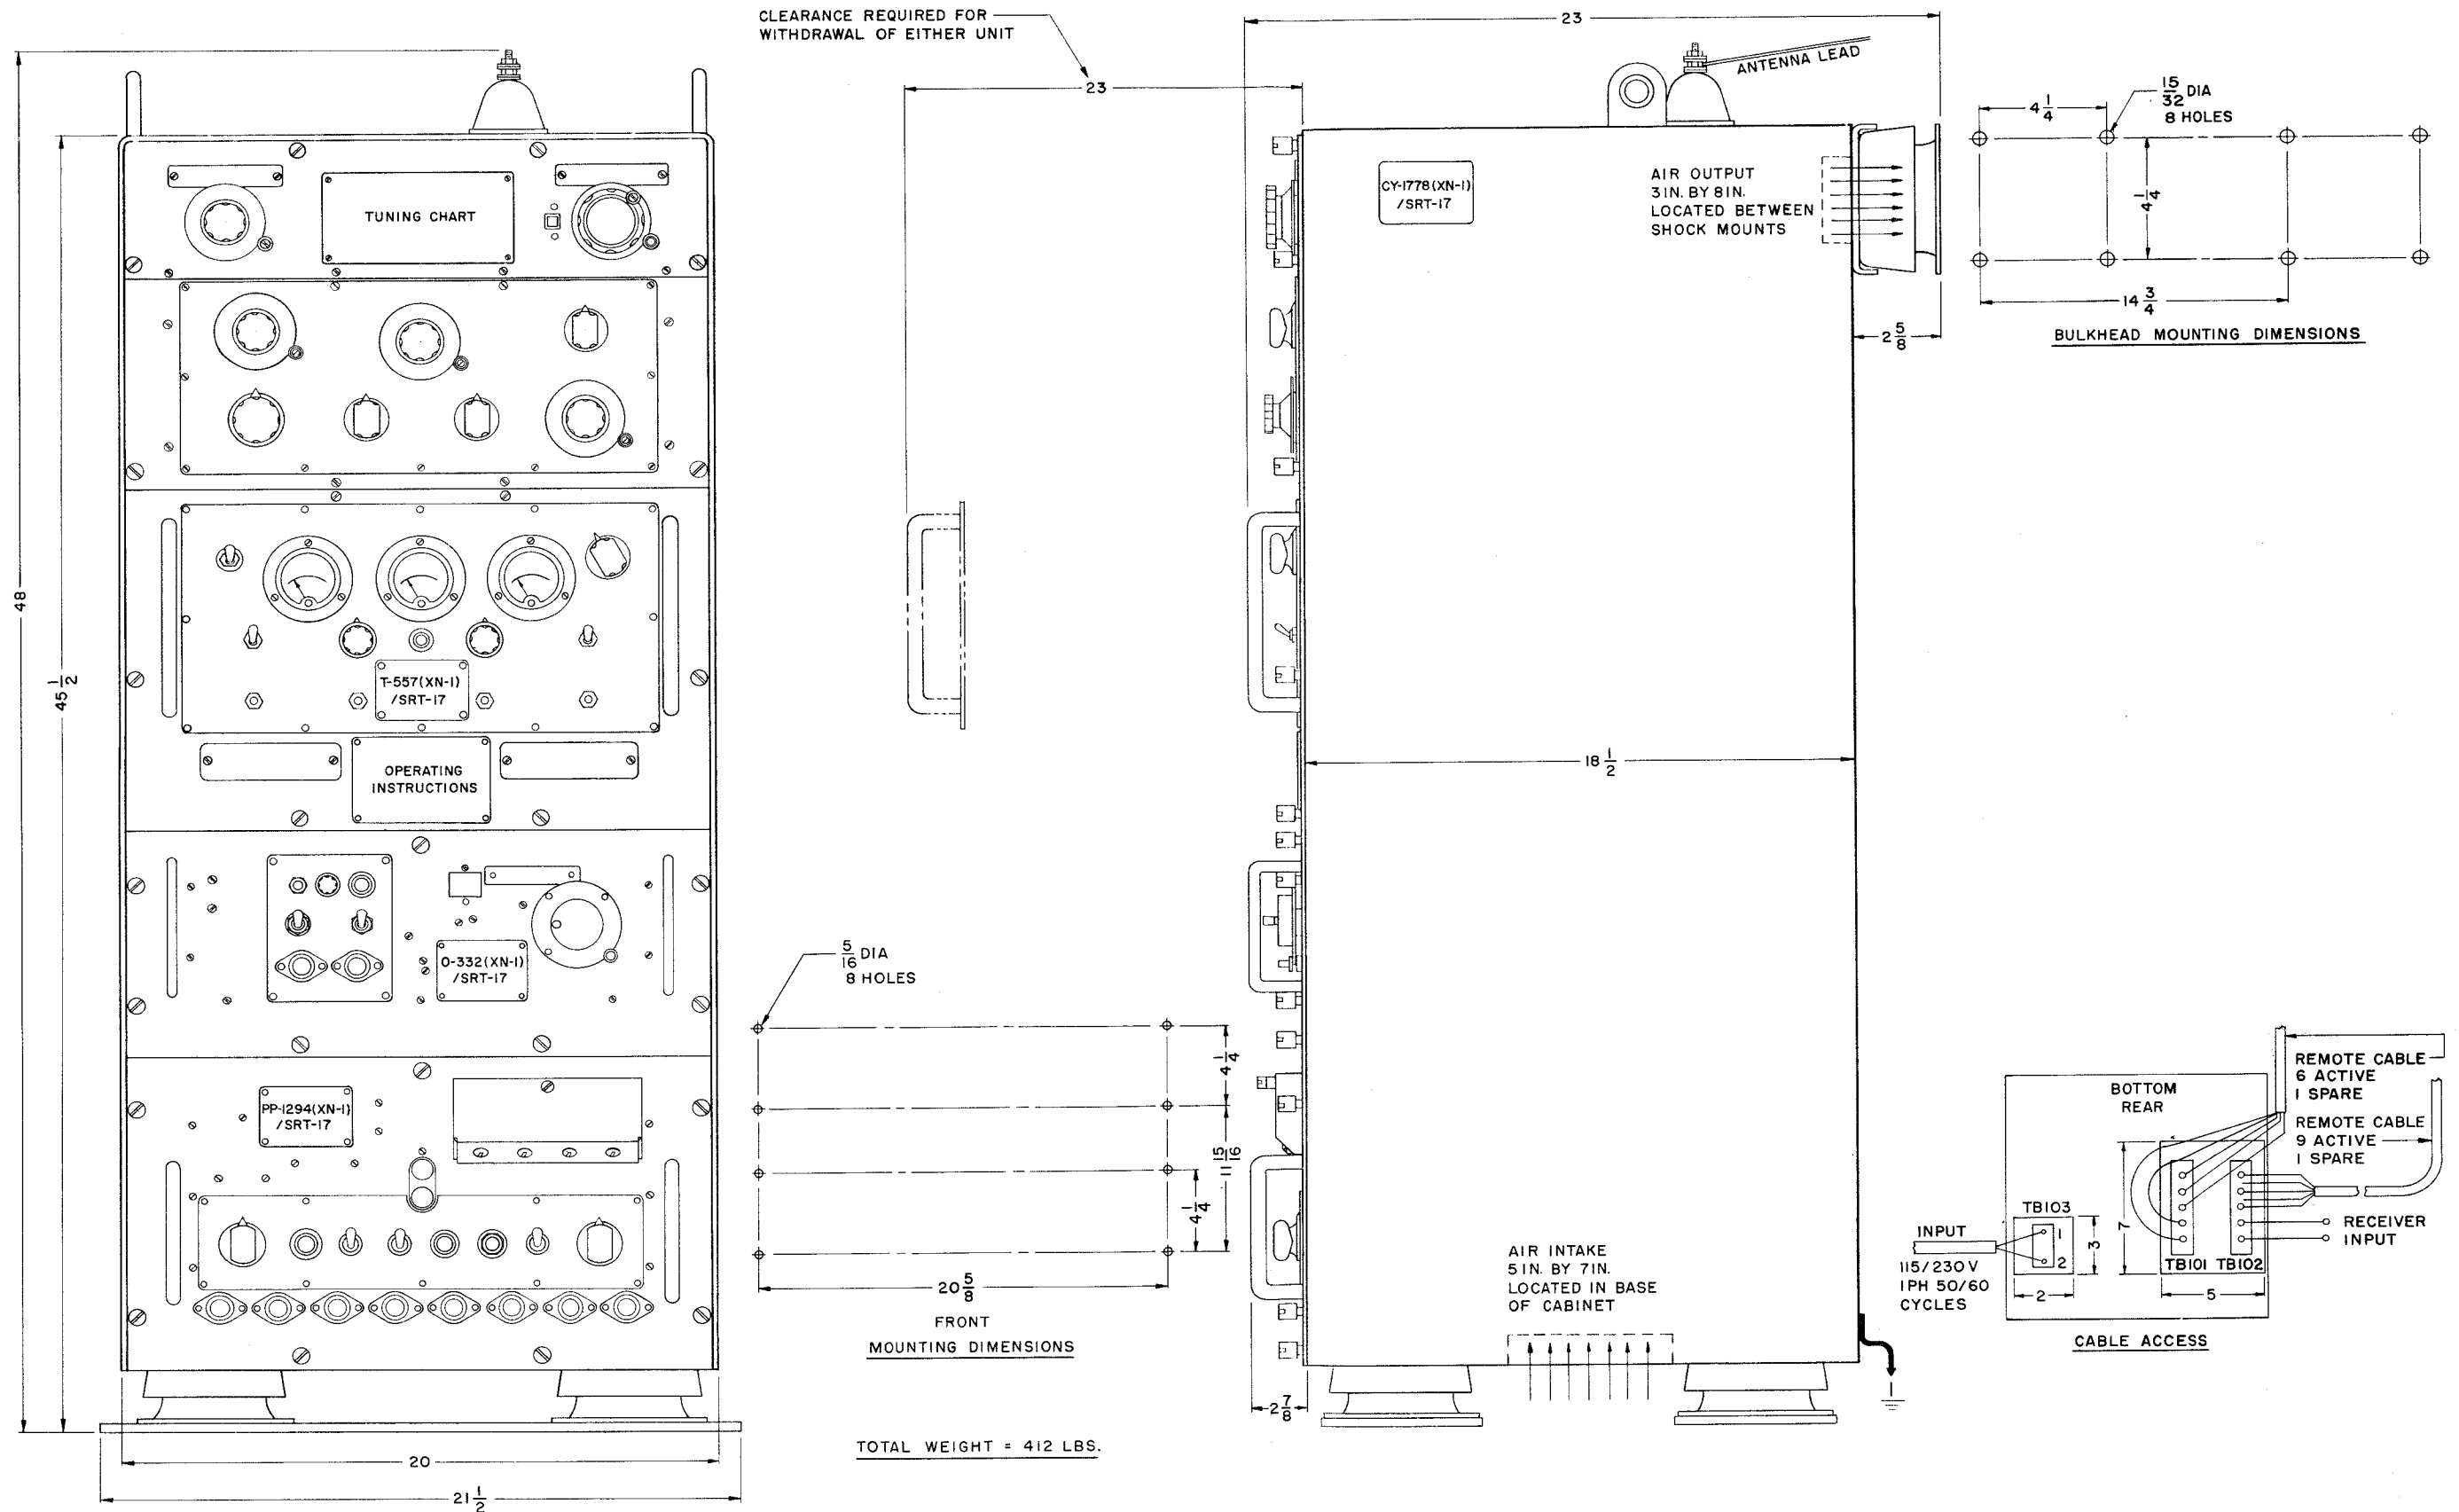

Figure 3-2. Outline and Mounting Dimensions
- (1) Weight of the Equipment: The transmitter weighs approximately 418 pounds. Make certain that the mounting table or deck will support the added weight of the transmitter.
- (2) Space Around the Transmitter: There must be adequate space in front of the transmitter to allow for withdrawal of the units from the cabinet. Refer to figure 3-2.
- (3) Adequate Ventilation: Cooling air is taken in at the bottom of the cabinet and exhausted through the top rear. Make sure that intake and outlet are not blocked.
- (4) Proper Mounting: The transmitter should be mounted on a level base which is not subject to vibration.
- (5) External Connections: Provide sufficient space for power supply cable and remote control cable connections. Antenna connections should be brought in as directly as possible, and the transmission line properly supported. Ground straps should be as short as possible.
b. MOUNTING. - Refer to figure 3-2 for overall and mounting dimensions. The cabinet is provided with shock and vibration mounts at the base and is arranged for snubbing shock and vibration through mounts located at the upper rear of the cabinet. These snubber mounts are to be attached to the adjacent bulkhead. Care should be exercised in marking and drilling the mounting holes. The following bolt sizes are recommended for mounting
- (1) Four 5/16 - 18 thread machine bolts are to be used for cabinet base mounting.
- (2) Eight 1/4 - 20 thread machine bolts are to be used to secure the snubber brackets to the bulkhead.